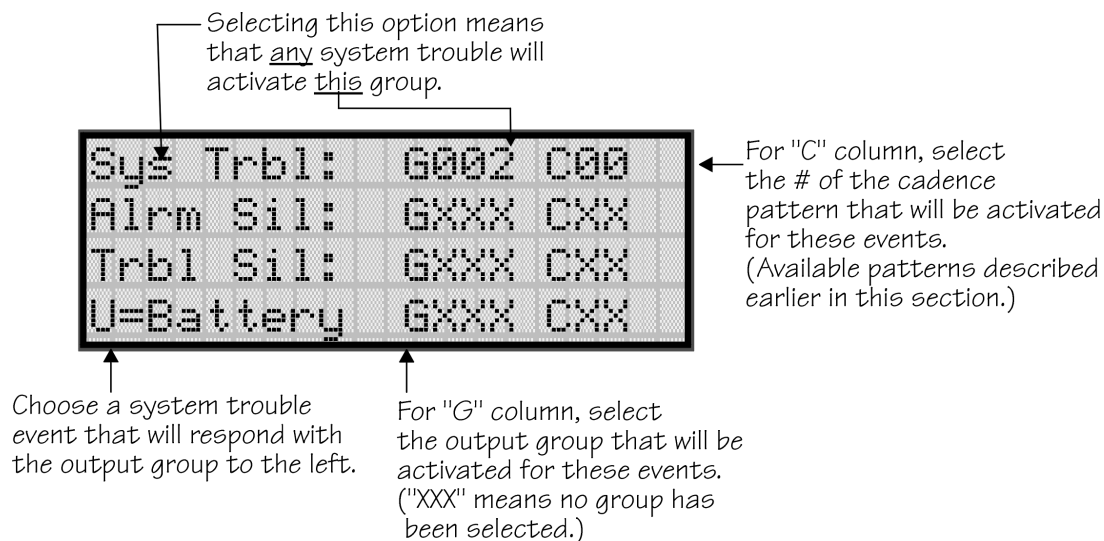

Figure 7-14 System Trouble Event Mapping Example
- Press **[1]** for Trouble Events. A screen similar to the one in Figure 7-14 will display. Select a group and a cadence pattern for each event as needed for your application. The U: field is for a user-specified trouble condition. You can program an output group and cadence pattern for any of the following events: